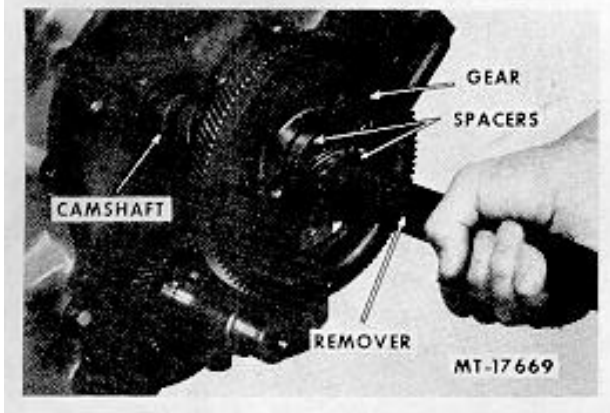

Fig. 53 Removing Camshaft Assembly Using SE-1880 Remover
54. Remove camshaft nut; then remove camshaft, gear and spacers as an assembly using SE-1880 Remover (Fig. 53).